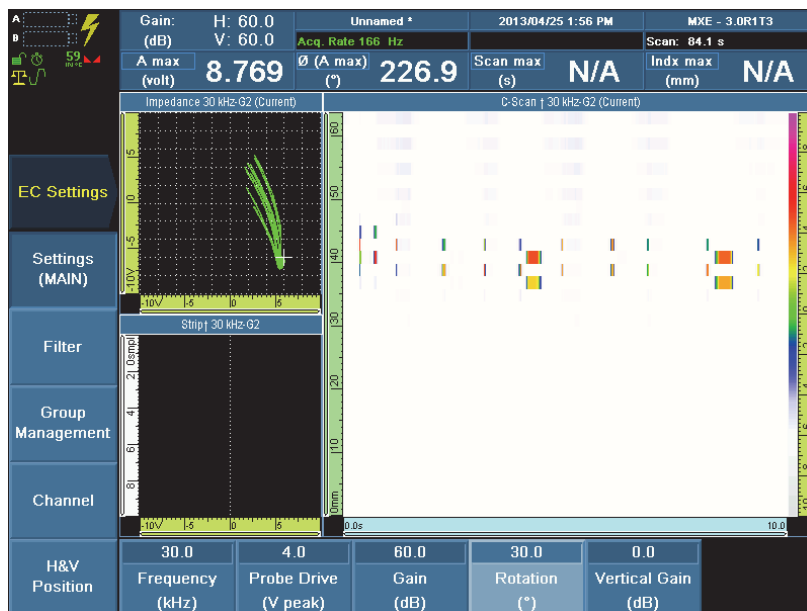

Figure 9-5 Configuring the Gain and Rotation parameters for mixing frequency 2
- e) Select **Rotation** ($^{\circ}$), set the value to orient the signal vertically, and then press the Accept key to confirm. In this example, the **Rotation** ($^{\circ}$) value is set to 30.0 (see Figure 9-5 on page 135).